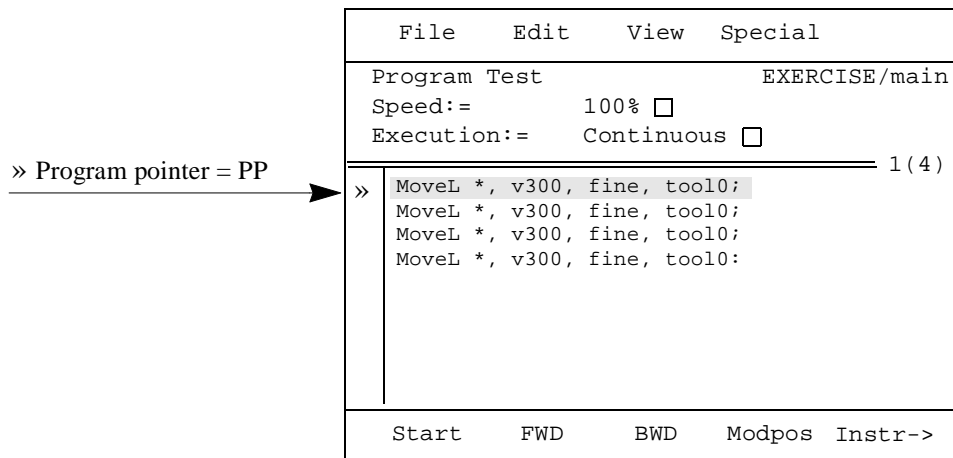

Figure 36 The Program Test window.
2. Press the **Test** function key. The window in Figure 36 appears.